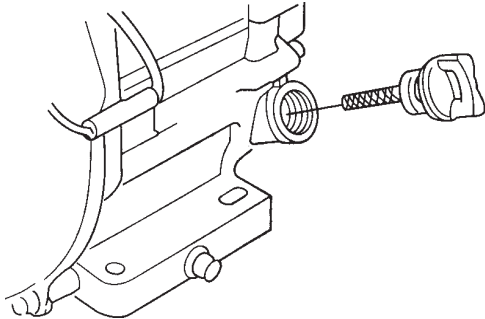

Figure 5. Engine Oil Dipstick
2. Remove the filler cap/dipstick from the engine oil filler hole (Figure 5) and wipe it clean.